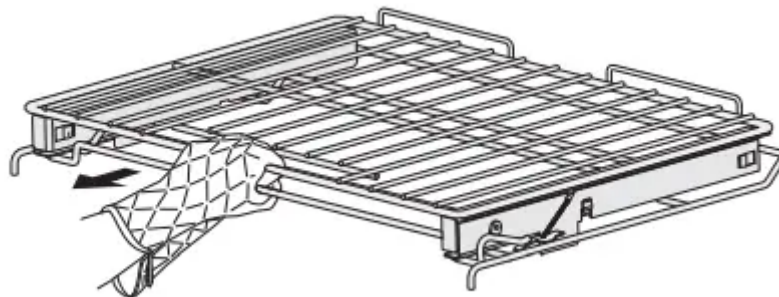

Figure 3: Pull rack to stop position
- While holding up the release lever, pull the glide rack out of the oven until the stop position is reached (Figure 3)